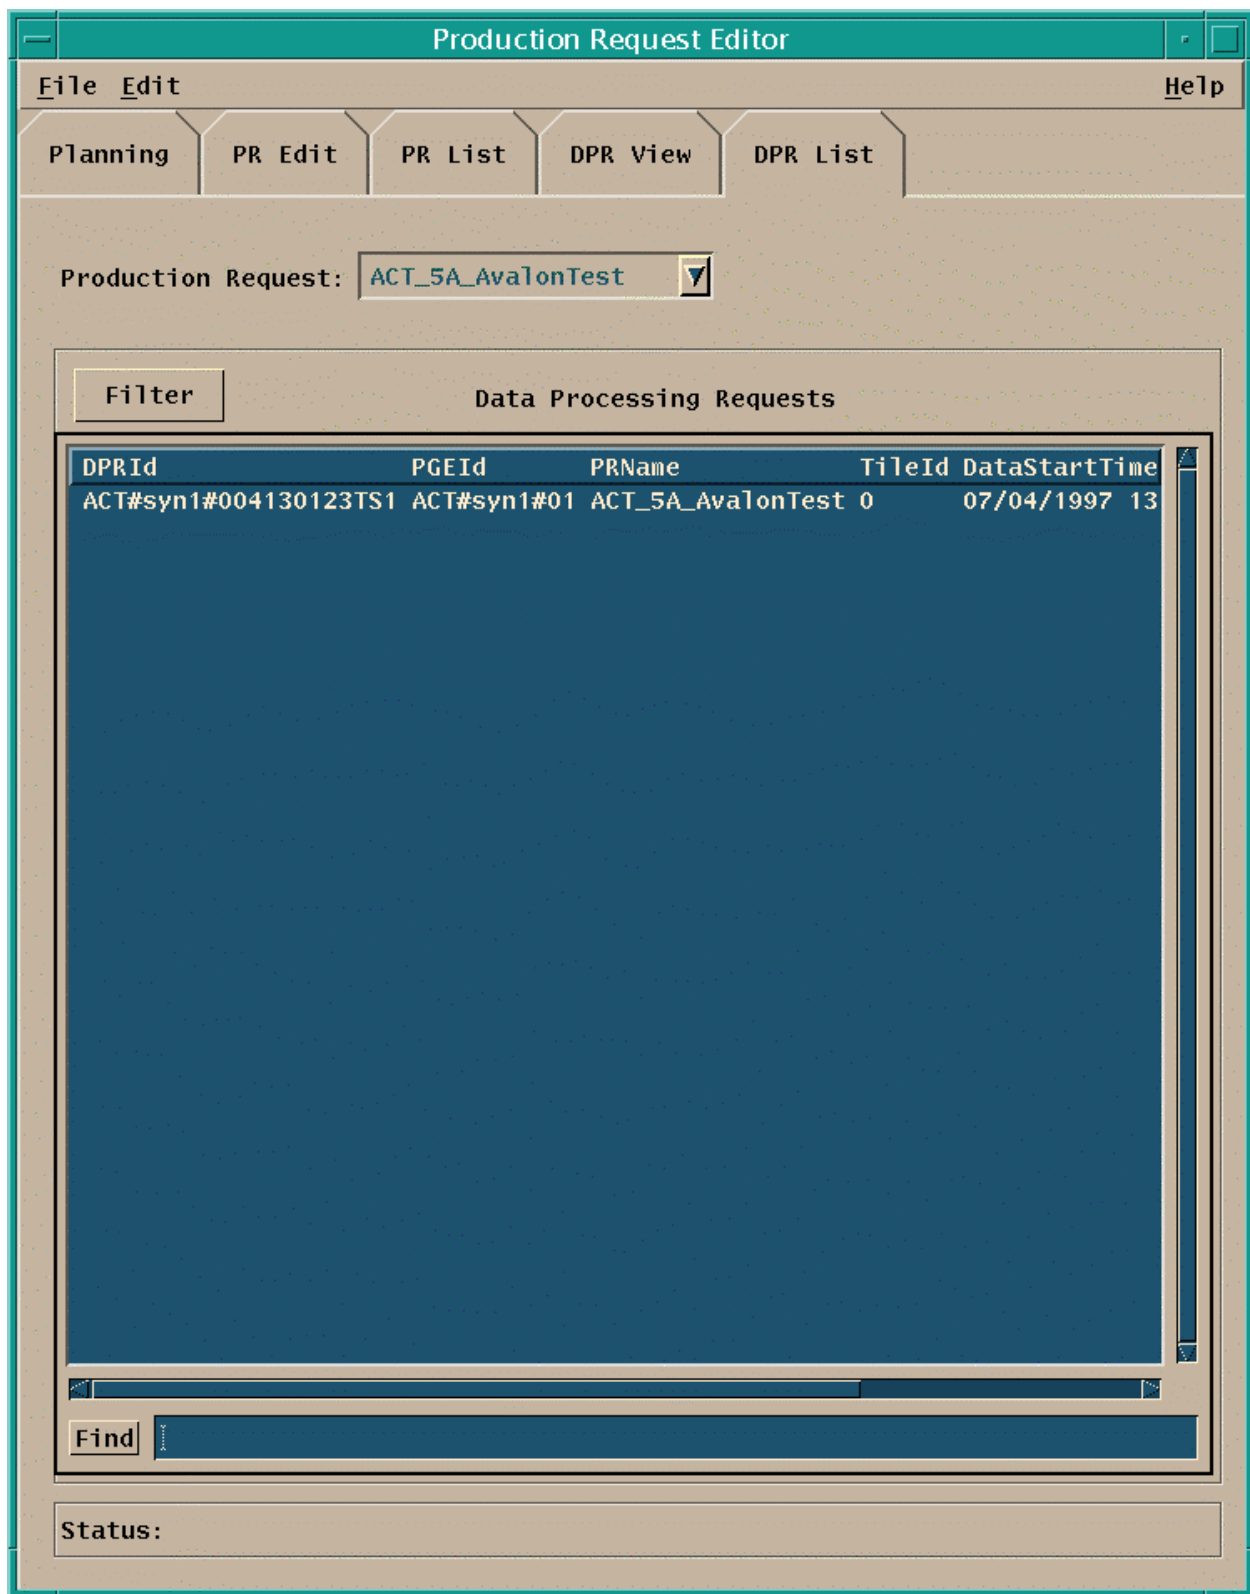

Figure 4.8.1-9. DPR List Tab
The **DPR List** tab, shown in Figure 4.8.1-9, and the **DPR View** tab, shown in Figure 4.8.1-10 have a lot of commonality. The data displayed on the **DPR List** tab is a subset of that included on the **DPR View** tab. Also, the dropdown menus of both tabs have the same options.
- **Open** - Allows the operator to select an existing DPR for review in the DPR View tab. In the **DPR View** tab (but not in the **DPR List** tab), this function uses the File Selection Popup (Figure 4.8.1-5).